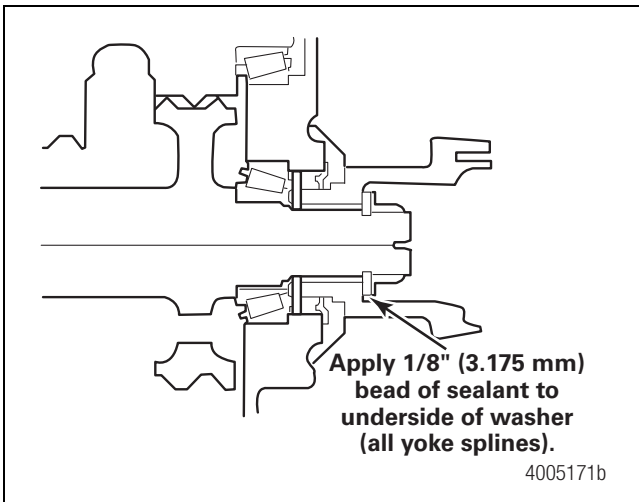

Figure 10
2. Apply a 1/8-inch (3.175 mm) bead of RTV 732 sealant 360 degrees around the underside of the washer. Figure 10.